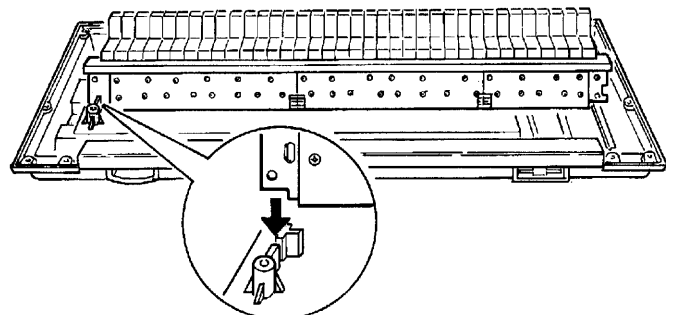

Figure-19
- As shown in Figure-19, the keyboard unit can be anchored in the metal projection.